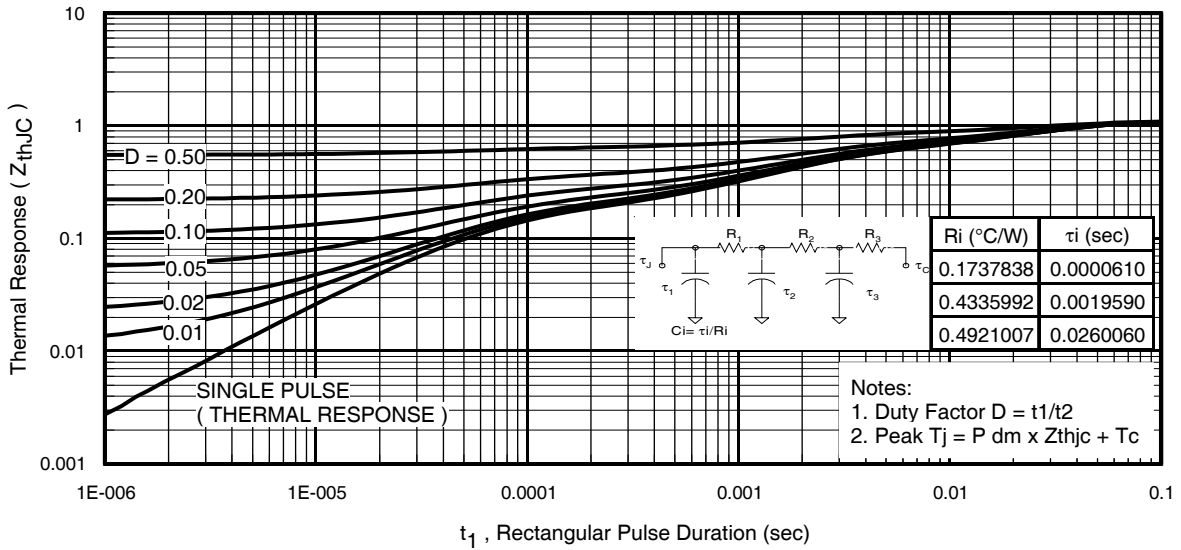

Fig 11. Maximum Effective Transient Thermal Impedance, Junction-to-Case
- ① Repetitive rating; pulse width limited by max. junction temperature. (See Fig. 11)
- ② Starting $T_J = 25^\circ\text{C}$, $L = 0.88mH$